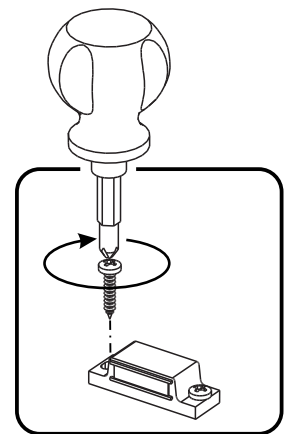

Figure 3
Attach Magnets to Rail (E) with Magnet Screws into pre-drilled holes. (See Figure 3)